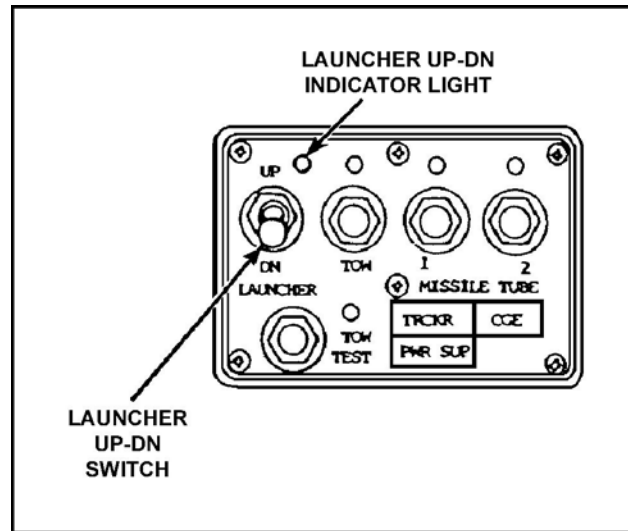

Figure 2. M2 TOW control box.
- c. Raise the TOW launcher (Figure 2).